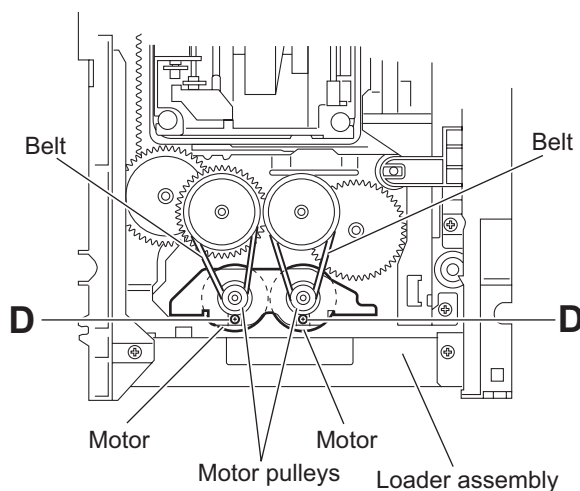

Fig.9
3.3.4 Removing the motor board (See Figs.9 and 10)
- (1) From the top side of the DVD changer mechanism assembly, remove the two belts from the motor pulleys. (See Fig.9.)
- (2) Remove the two screws **D** attaching the motors to the loader assembly. (See Fig.9.)